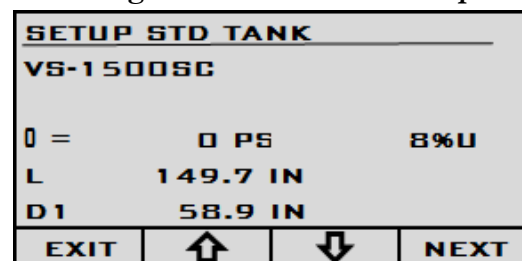

Figure 6.3.2: Select tank.
- 3) On the SETUP STD TANK screen use the UP/DOWN arrow keys to browse the various types of tanks. Once you have found the specific tank that the TANK-TEL will be used on press the NEXT key. (Figure 6.3.2)